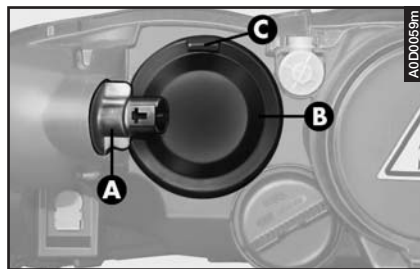

fig. 32
- Turn counter-clockwise and remove the direction indicator bulb holder (**A-fig. 32**) without disconnecting the connector to widen the working space.